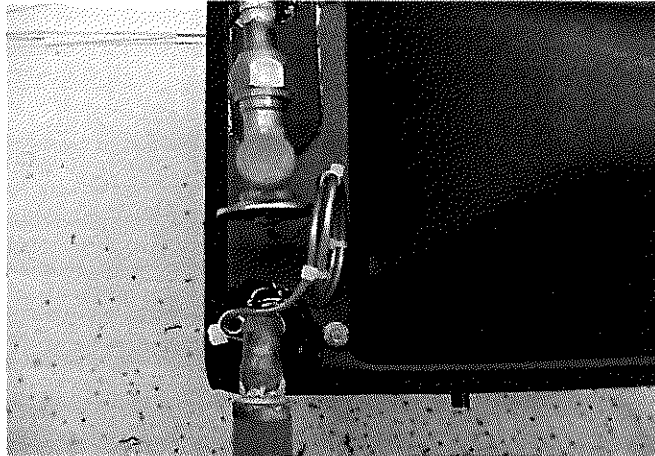
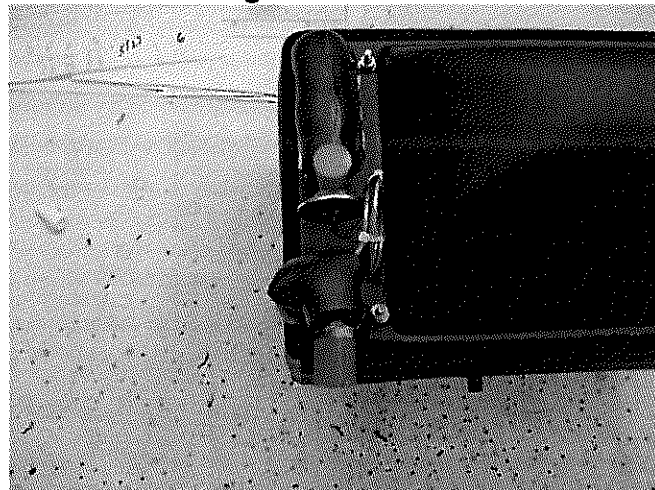

Figure 4-1
Figure 4-3
6. Install the thermal sense bulb such that it makes contact with the suction tube along its entire length. When viewing the suction tube extruding out of the evaporator, the sense bulb should be in the three or nine o'clock position (Figure 4-1 and 4-2). Attach the sensor bulb using two zip ties. Insulate the bulb and expansion valve thoroughly with insulation (Figure 4-3).